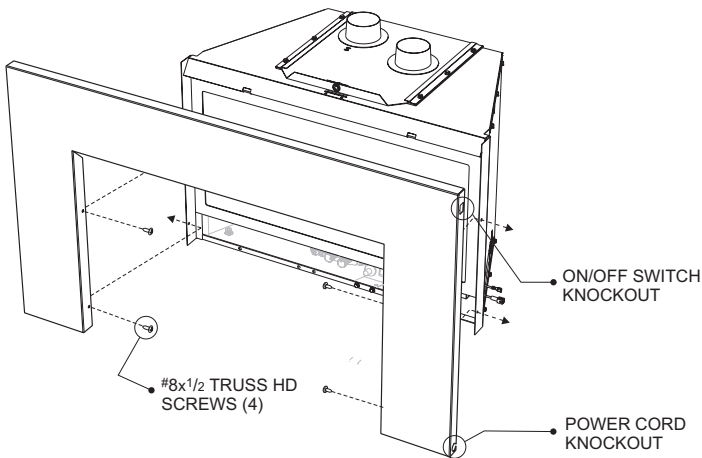

Figure 15
1. Secure the surround to the fireplace insert flanges with four #8 x 1/2-inch truss head screws (two each side). **See Figure 15.**
6. Attach the surround assembly to the insert. **See Figure 15** on page 19 and refer to the installation instructions supplied with the surround.